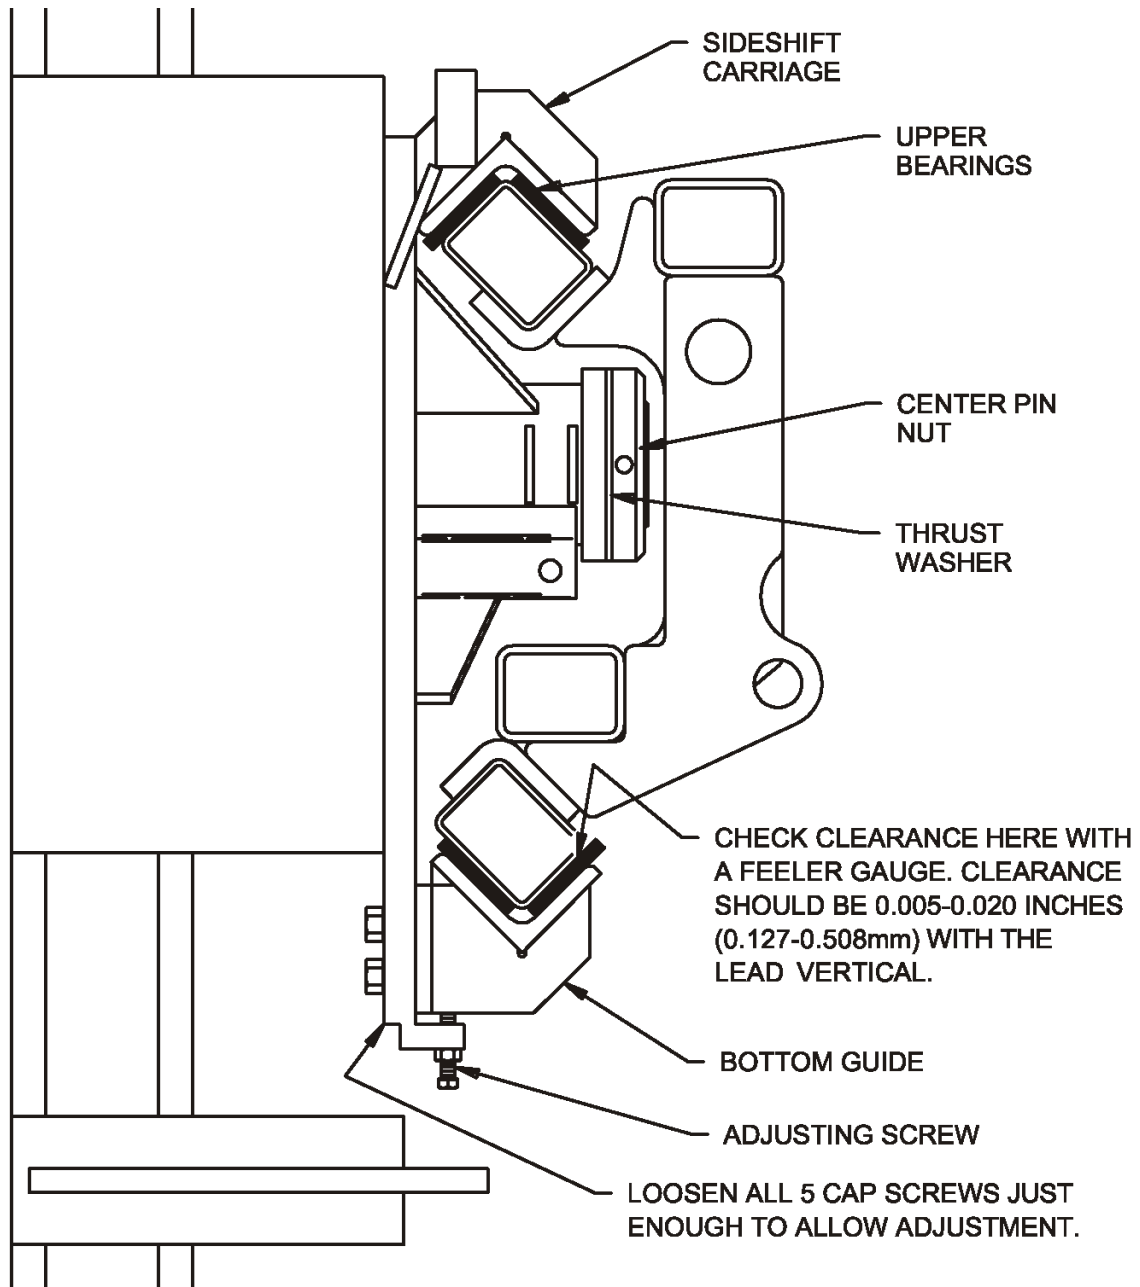

Figure 7-2
The carriage assembly is equipped with plastic slider bearings which operate in contact with the surfaces of the sideshift ways. It will occasionally be necessary to adjust these bearings for wear. (Refer to Figure 7-2)
3. Loosen, but **DO NOT REMOVE**, the bolts that attach the lower bearing retainer to the carriage assembly. (Refer to Figure 7-2)
5. Turn the adjustment screws to obtain a running clearance of 0.005" to 0.020" (0.127 - 0.508 mm) at the lower bearing. (Refer to Figure 7-2)
The center pivot bearing on the carriage assembly should be checked periodically for end play. To adjust the end play, refer to Figure 7-2 and use the following procedure:
3. Using standard feeler gauges, check the end play between the thrust washer and the retaining ring at the back of the carriage center pivot. (Refer to Figure 7-2)